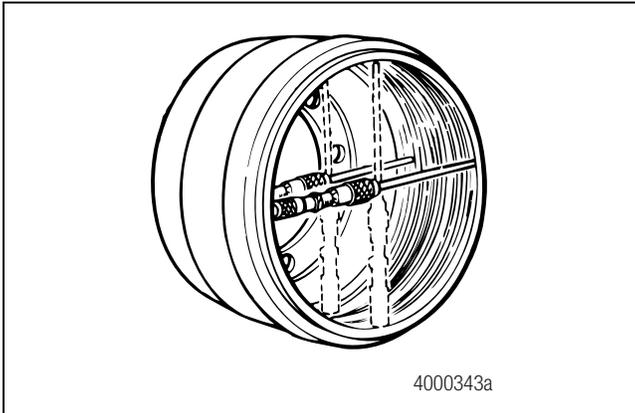

Figure 5.14
- B. Measure the inside diameter of the drum in several locations with a drum caliper or inside micrometer. Figure 5.14.